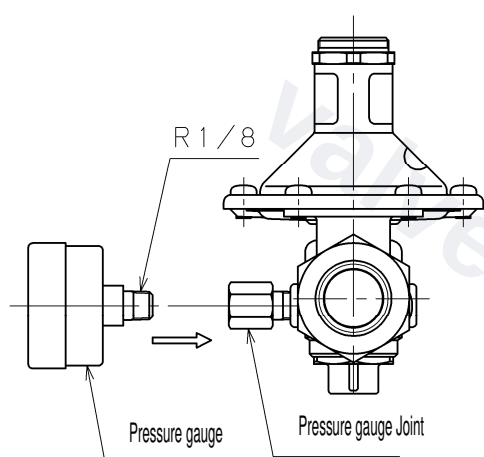

Fig. 3
- (1) Screw the pressure gauge into the pressure gauge joint. (Fig. 3)